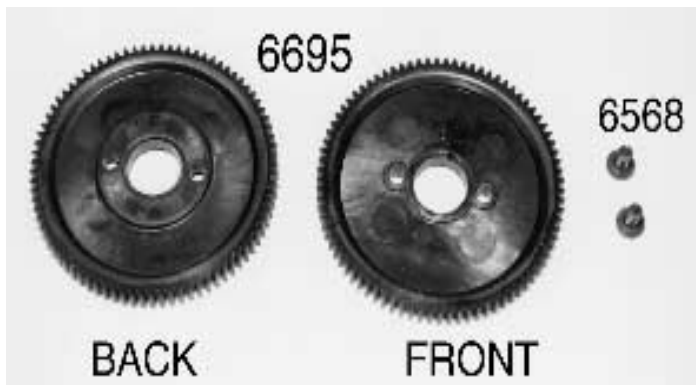

Fig. 77
□ **Figs. 77 & 78** Open bag #7-15 and remove the #6695 87 tooth 48 pitch Stealth spur gear. From bag F remove two #6568 4-40 x 3/16" BHCScrews. Mount the spur gear with the back side (which has a raised circle about the diameter of a quarter in the center) towards the torque clutch assembly. (This is the side without the molded spur gear number.) Line up the two hub mounting holes with the gear mounting holes and install the 3/16" BHCScrews. **Note:** Do your best to press on the spur gear evenly and then try and tighten the mounting screws evenly. This will help to prevent any warping of the spur gear causing gear meshing problems.